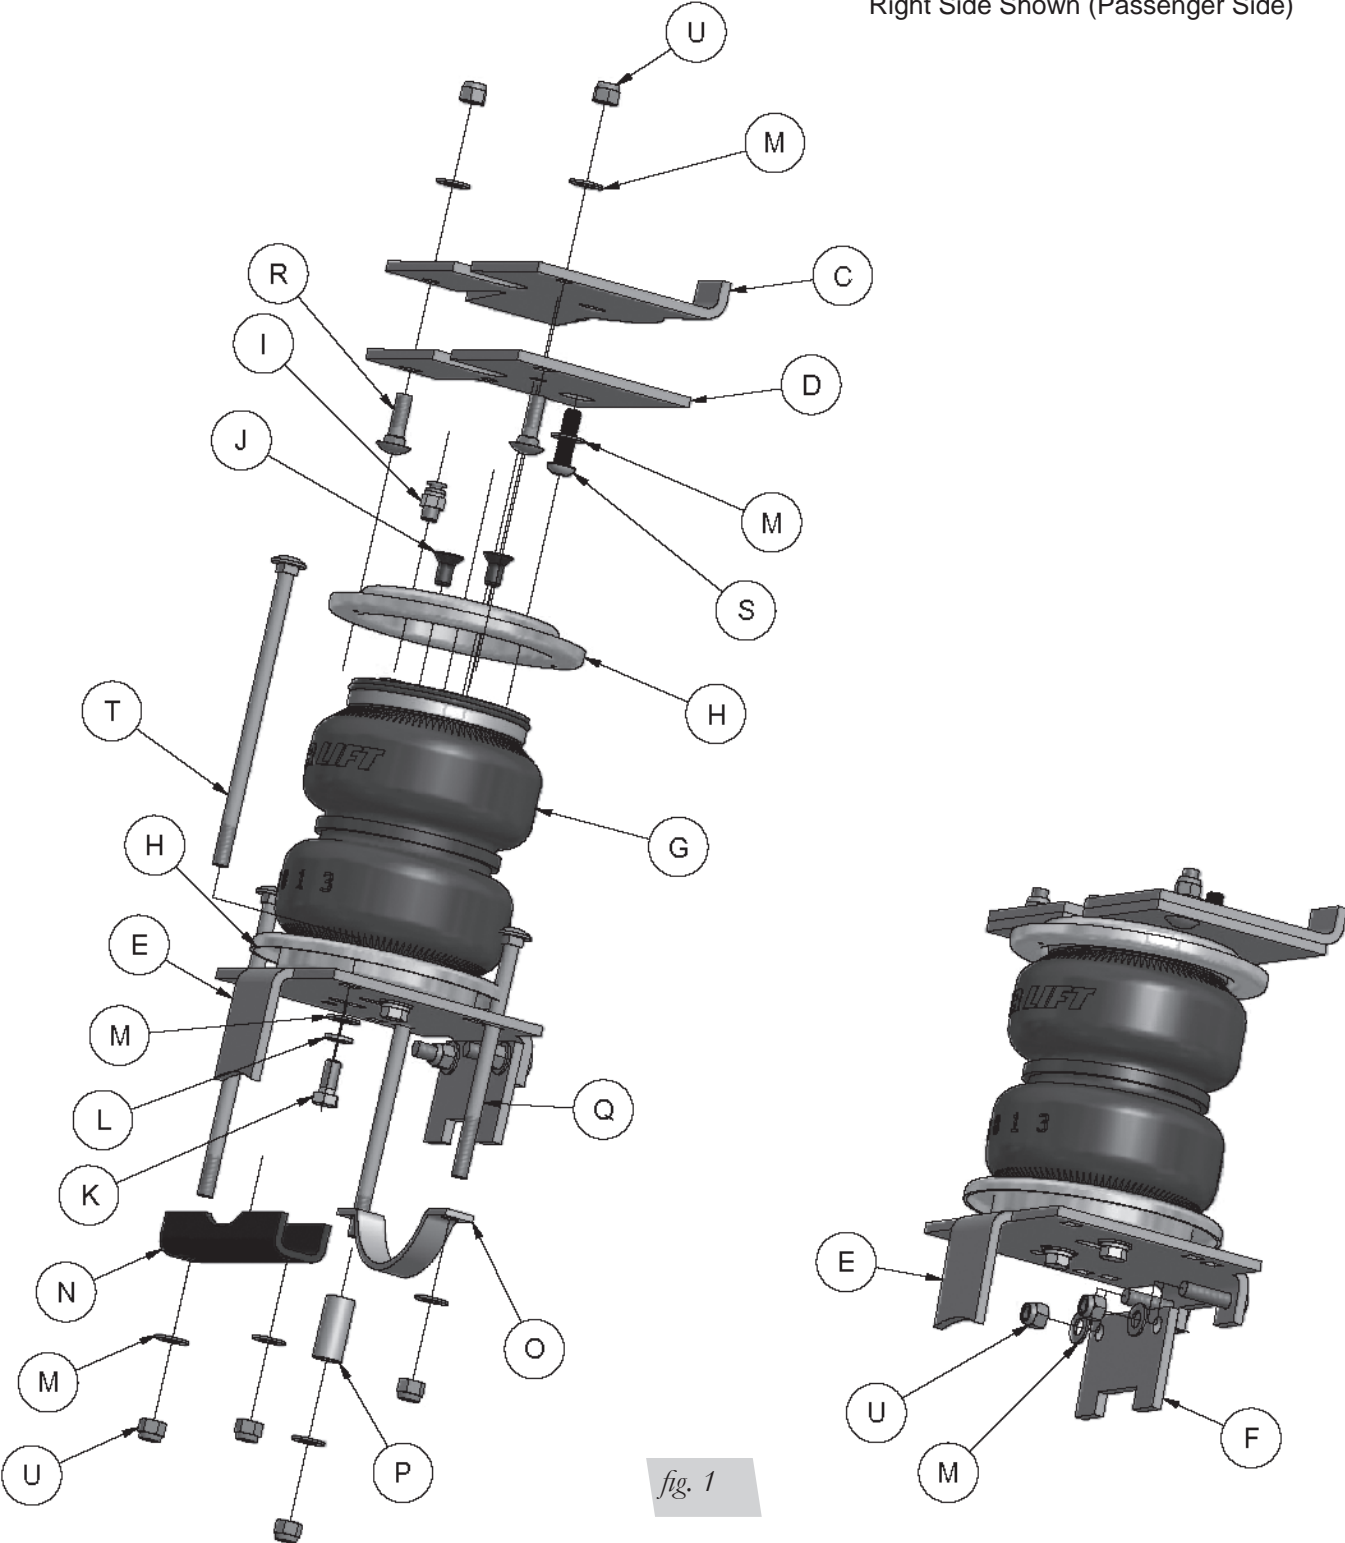

fig. 1
1. Set a roll plate (H) over the top of the bellows (G) (Fig. 1).
2. Install the straight fitting (I) into the top of the bellows finger tight. Tighten the fitting one and a half turns.
3. Install the upper spring bracket (B & D) onto the bellows (G) using four (J) flat head screws (Fig. 1). Torque the upper spring bracket to no more than 20 lb.-ft.